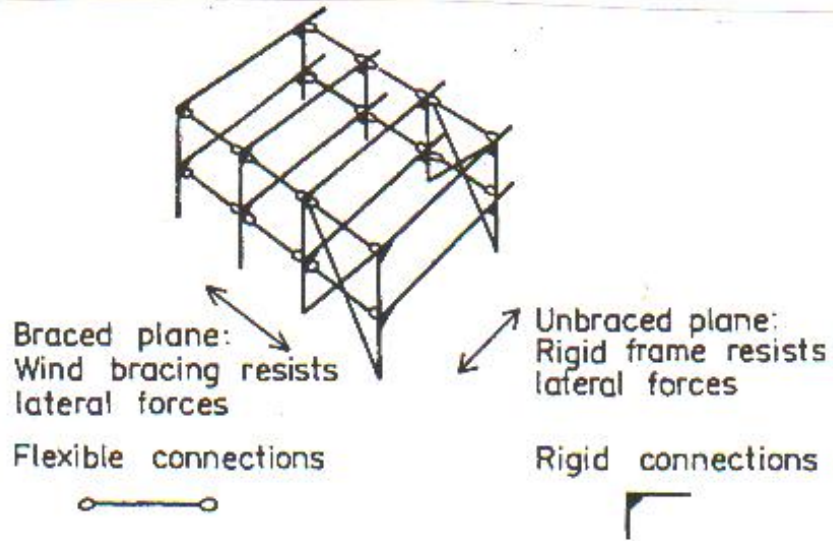

Fig 3.4 One-way braced, one-way rigid framework
- One-way rigid/ one-way braced framework (AISC Fig. 3.4)